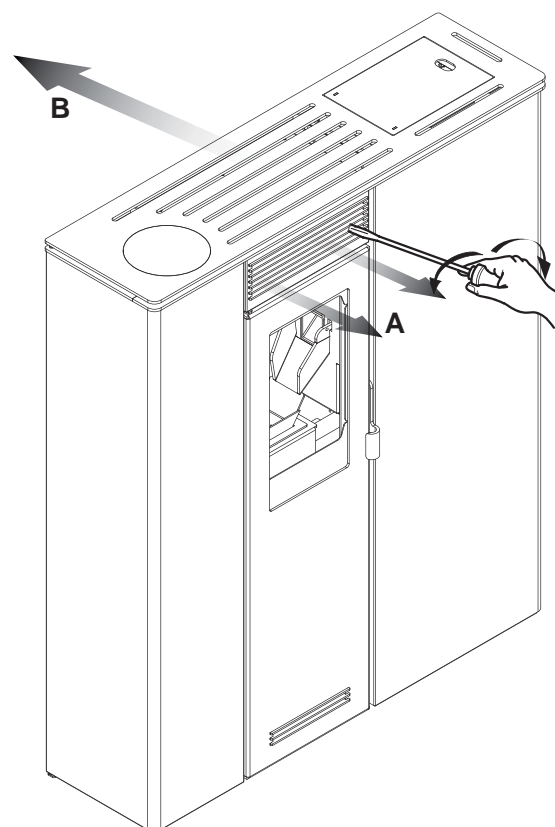

Fig. 13
One is for heating the room where the stove is installed, Fig. 13 (A) through the front or top grills (according to the model). The other is used to heat other rooms away from the stove, Fig.13 (B), through a system of air ducts.